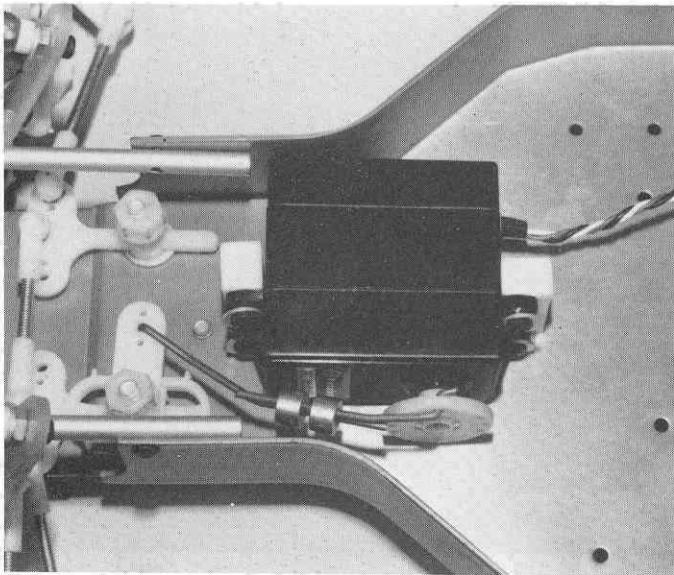

Fig. 149
□ **Fig. 149** Mount the servo and install the linkage following steps 142 and 143. Bend the linkage wire as shown in Photo 149.